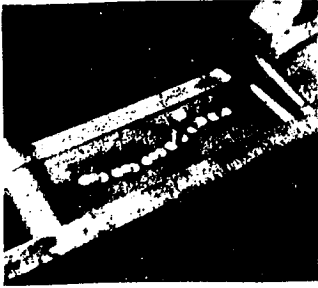

Fig. 6A Pins are installed in holes between first series of pins in overlapping pattern.
9. Drill a second series of holes at every other punch mark. This is to prevent from drilling on both sides of any pin, which could cause it to become loose. (Fig. 6A & 6B)